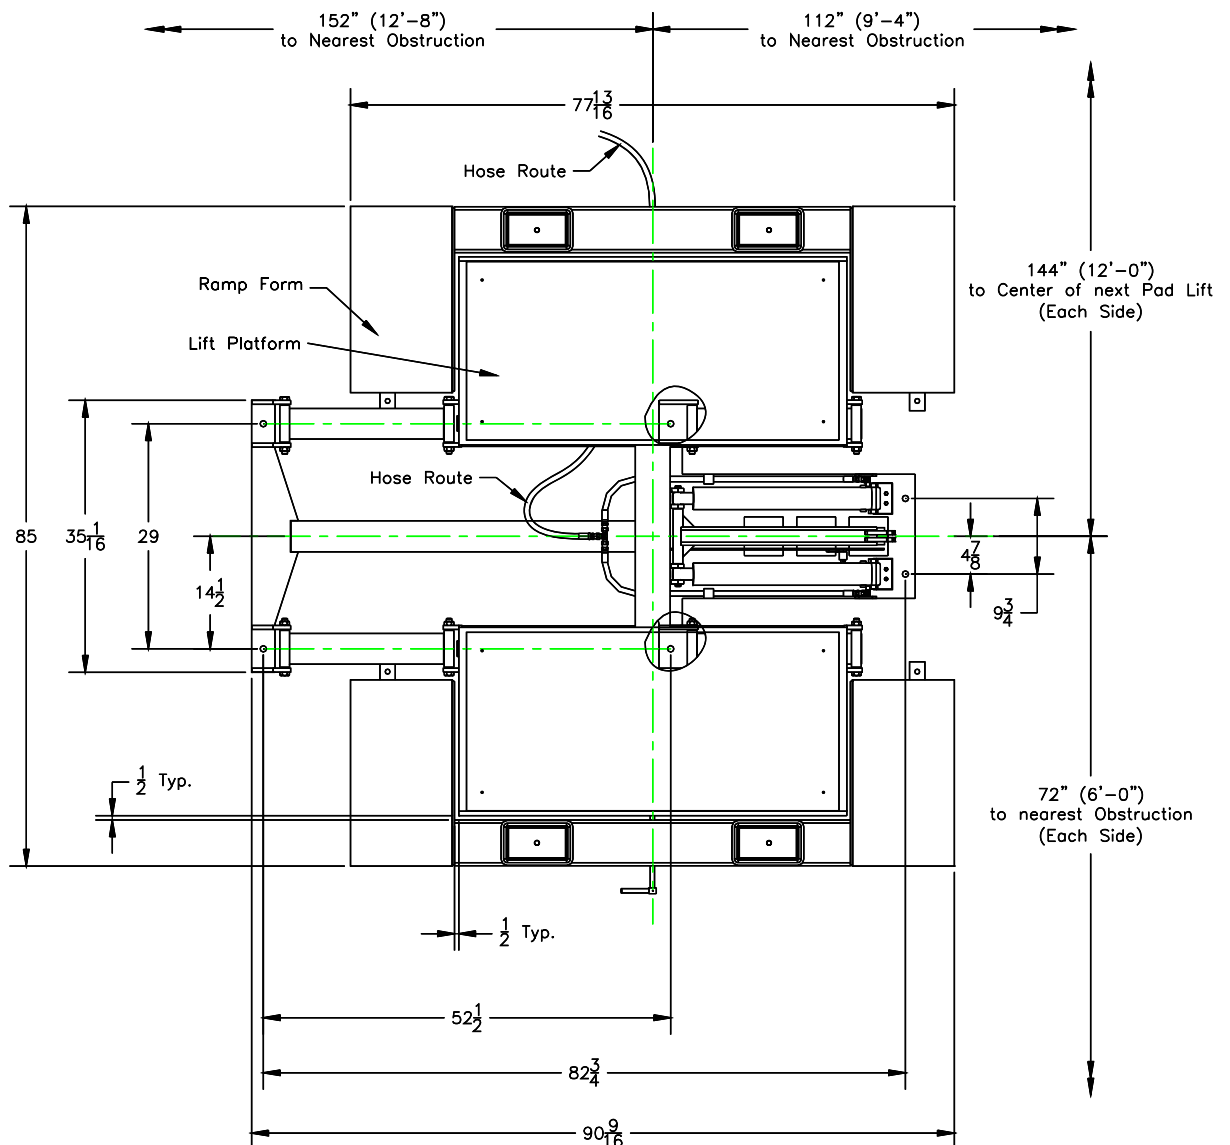

Fig. 1 General Layout
1. Locate the pad lift on a level concrete floor with adequate space on all sides as shown in Fig. 1. Minimum floor thickness is 4". Minimum floor strength is 3500 psi.
2. Anchoring the lift, there are (6) 13/16" diameter holes provided in the base frame and (8) 5/8" diameter holes in the ramp forms. The holes are sized for 3/4" and 1/2" anchor bolts. Use the holes as a template when drilling into floor. The ramp form should be located to allow a minimum 1/2" clearance around the lift platform, See Fig.1.